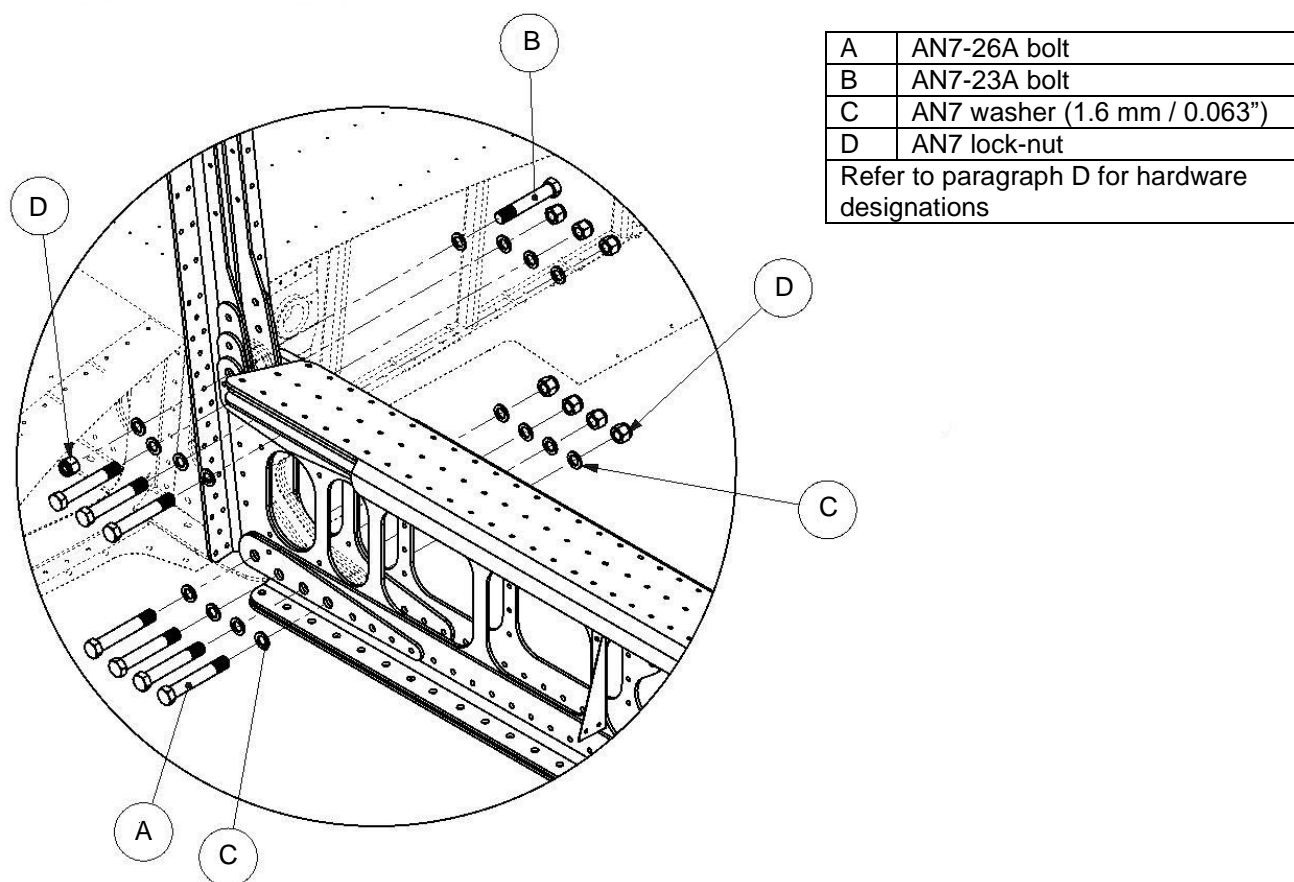

Figure 7: Front wing spar to fuselage connection.
- Tighten the main (front) spar bolts to the recommended value (refer to paragraph 1.5.2). Observe the correct placement of washers (refer to Figure 7). Note that the top bolt is mounted with its head facing the aircraft tail.